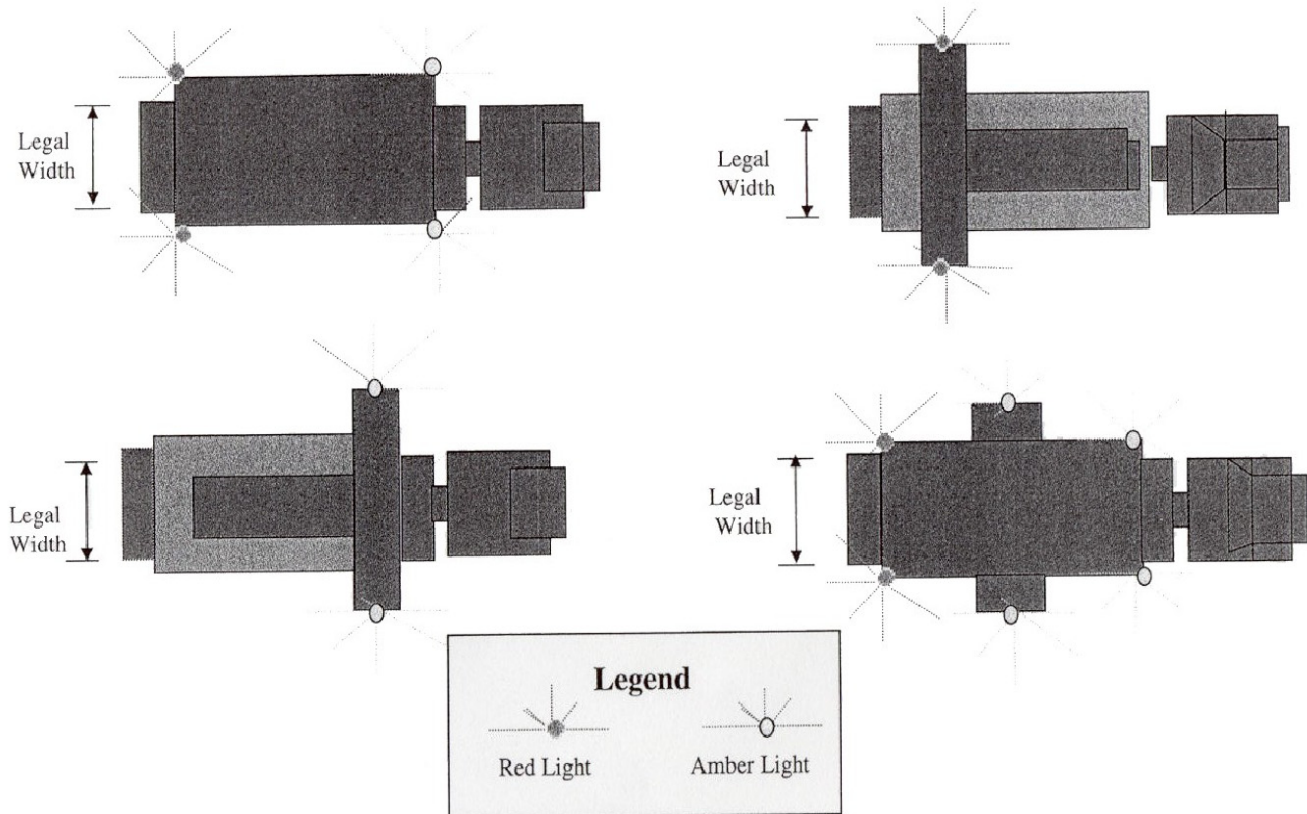

Figure 4.3: Warning Lights on Overwidth Loads
- 4.6.4.1 Warning lights shall be used for authorized night operations as shown in Figures 4.3 and 4.4. The lights must be visible from a minimum of 500 feet in all directions. The lights shall be steady burning. The color of the lights shall be as follows:
4.6.4.2 For overwidth loads uniform in width, place amber lights on the forward corners of the load and red lights on the rear corners of the load as shown in Figure 4.3.
4.6.4.3 If the load is overwidth for its entire length with a wider portion near the middle of the load, place red and amber lights at the rear and front corners of the load, respectively, with amber lights on the sides at the extreme limits of the load as shown in Figure 4.3.
4.6.4.4 If the load is nonuniform in width with the overwidth portion at the rear extremity of the load, place red lights on the side of the load at its extreme width as shown in Figure 4.3.
4.6.4.5 If the load is nonuniform in width with the overwidth portion to the front, place amber lights on the side at the load extremities as shown in Figure 4.3.